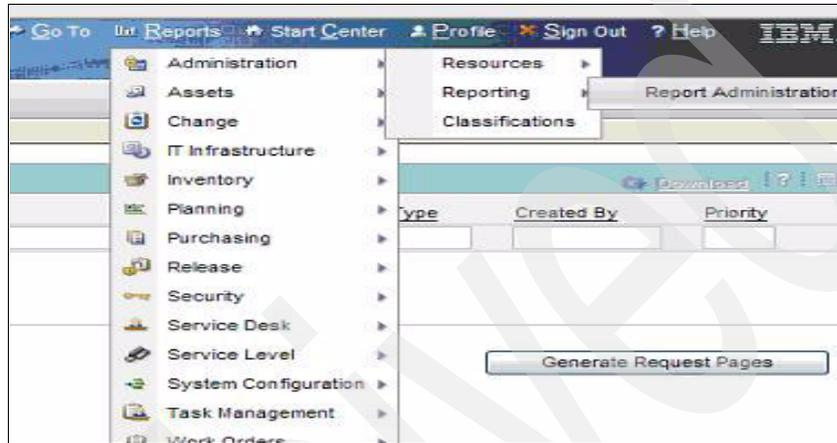

Figure 8-1 Report Administration menu
1. Start the Report Administration application from the Start Center by selecting **Go To** → **Administration** → **Reporting** → **Report Administration** as shown Figure 8-1.